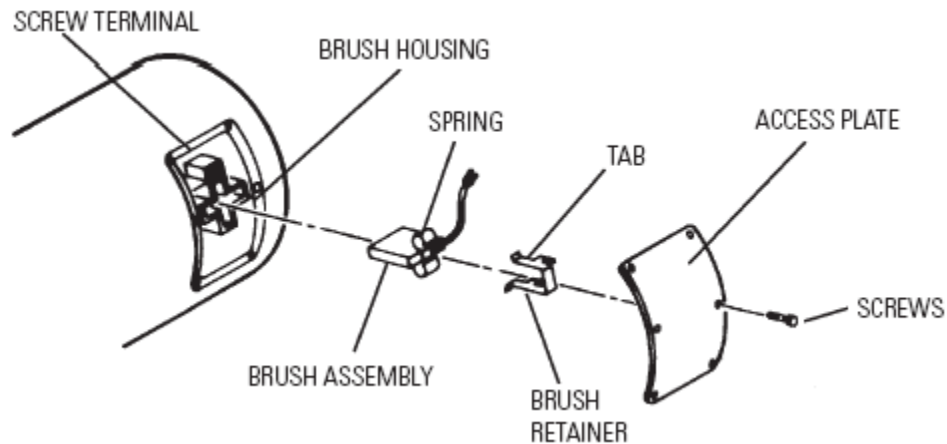

FIGURE 8 – MOTOR BRUSH
2. To access the motor brushes, remove six screws securing the access plate (see Figure 8)